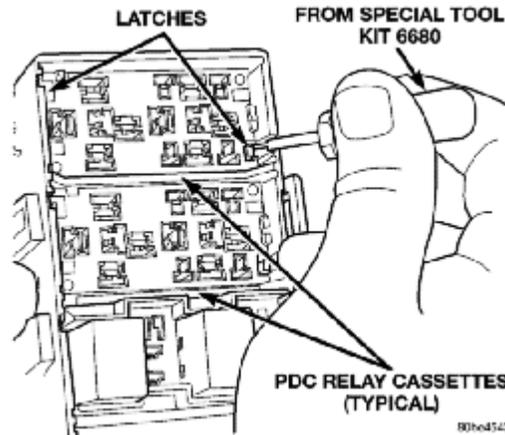

Fig. 8 PDC Relay Cassette Latches
(2) From the top of the PDC housing, use a small screwdriver or a terminal pick tool (Special Tool Kit 6680) to release the two latches that secure the relay cassette in the PDC (Fig. 8).